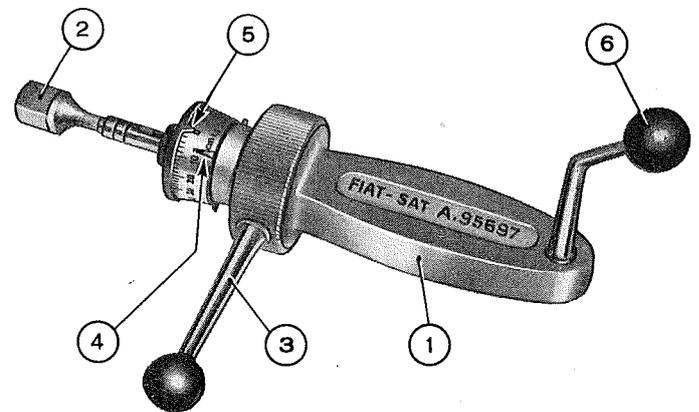

Fig. 257 - Bearing rotation torque dynamometer.
To check the rotation torque, proceed as follows. Install support A. 95697/2 on wheel drum. Insert the shank (2, fig. 257) of dynamometer A. 95697 in support and grasp lever (3).
Move the needle (5) to register .36 ft.lbs (50 kgmm) on dynamometer scale, as shown in fig. 257 and, using the lever (6), rotate the dynamometer and the wheel shaft some turns, clockwise.